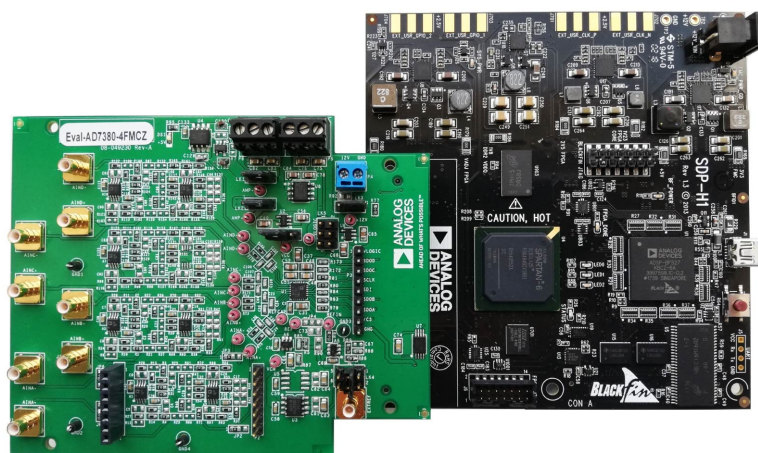

Figure 2. EVAL-AD7380-4FMCZ Board (Left) Connected to the EVAL-SDP-CH1Z Board (Right)
3. Connect the EVAL-SDP-CH1Z board to the EVAL-AD7380-4FMCZ or EVAL-AD7383-4FMCZ, as shown in Figure 2.